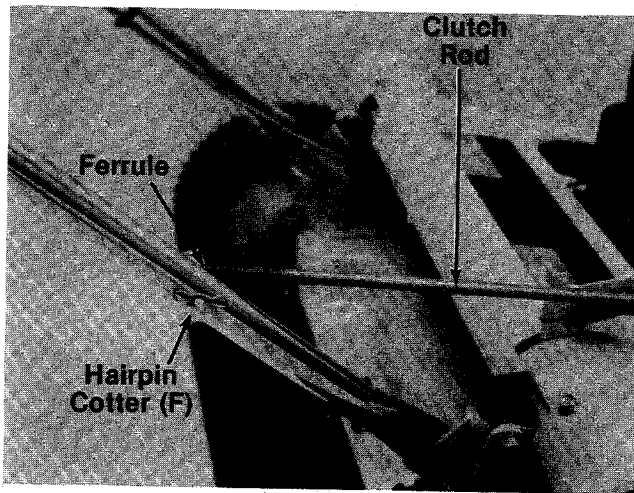

FIGURE 11.
20. Pivot the clutch rod back. Raise the handle slightly and thread the ferrule onto the clutch rod until the ferrule lines up with the hole in the lower handle. Secure ferrule in handle with hairpin cotter (F) as shown in figure 11.
The drive pinions should be approximately 1/16" from the drive wheels when the clutch is disengaged (handle is **not** pushed forward). Refer to figure 11.